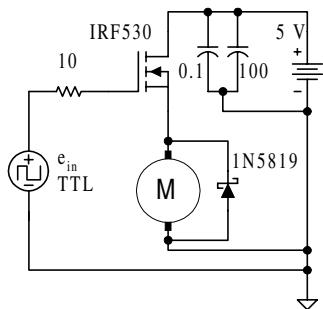

Figure 6-35 Simple *n*-channel high side switch
- Build the circuit in Figure 6-35. Follow the schematic to assure separate common returns, decoupling, and the Schottky diode directly across the load.